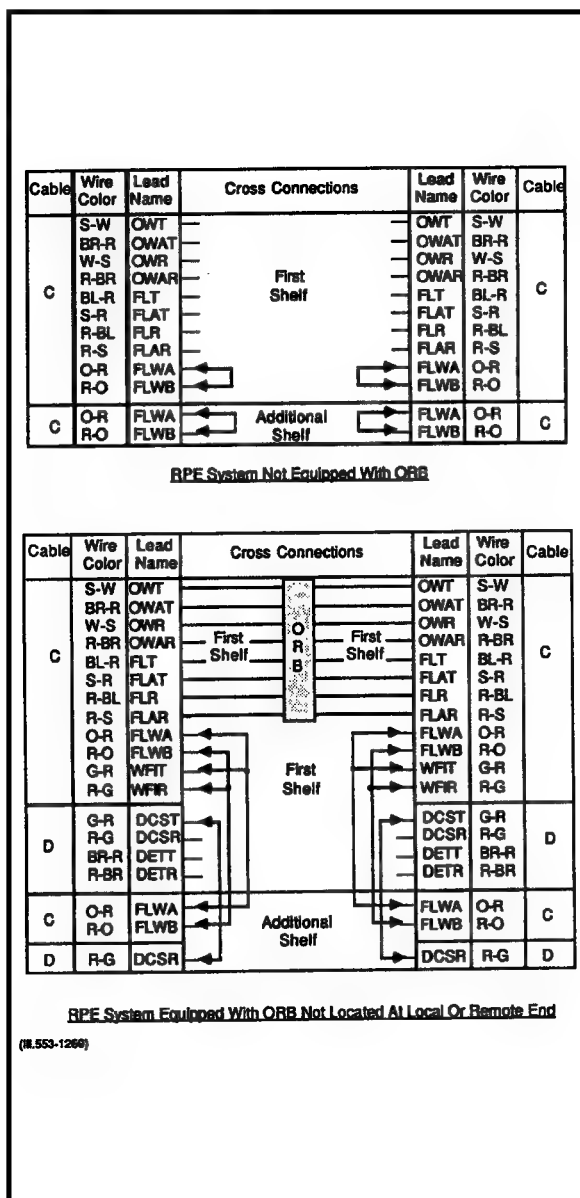

Figure 2-5
- 24 Ensure that the circuit packs are in their assigned position in the RPE shelf (Fig. 2-5).